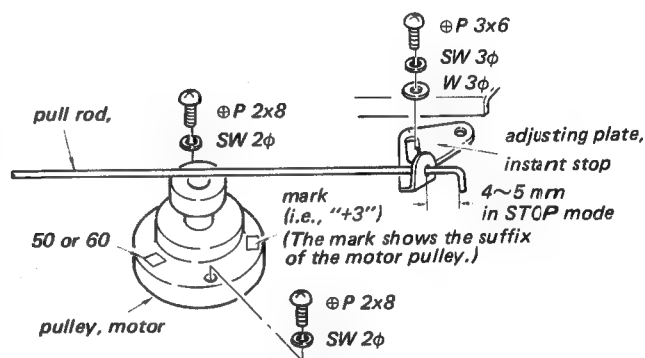

Fig. 13-2
4. Adjust by positioning the instant stop adjusting plate so that the distance between the top of the pull rod and the instant stop adjusting plate is 4 ~ 5 mm ($\frac{5}{32}$ ~ $\frac{13}{64}$ ") in STOP mode as shown in Fig. 13-2.